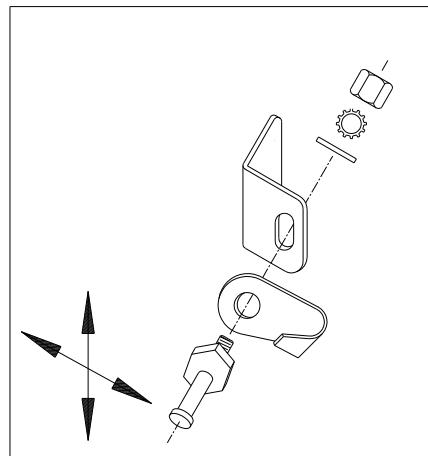

Fig. 17.3 (striker bolt)
17.3 Per fig. 17.3, the large striker bolt and nut can be loosened and reset higher or lower or in or out for better engagement in the door latch assembly if necessary. Use two 19mm open end wrenches. Note: finger guard to end up being centered and facing inward.